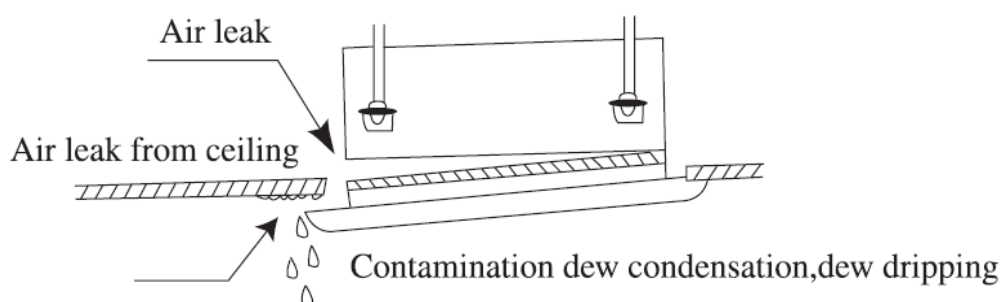

Fig.5
1. Improper screwing of the screws may cause the troubles shown in Fig.5